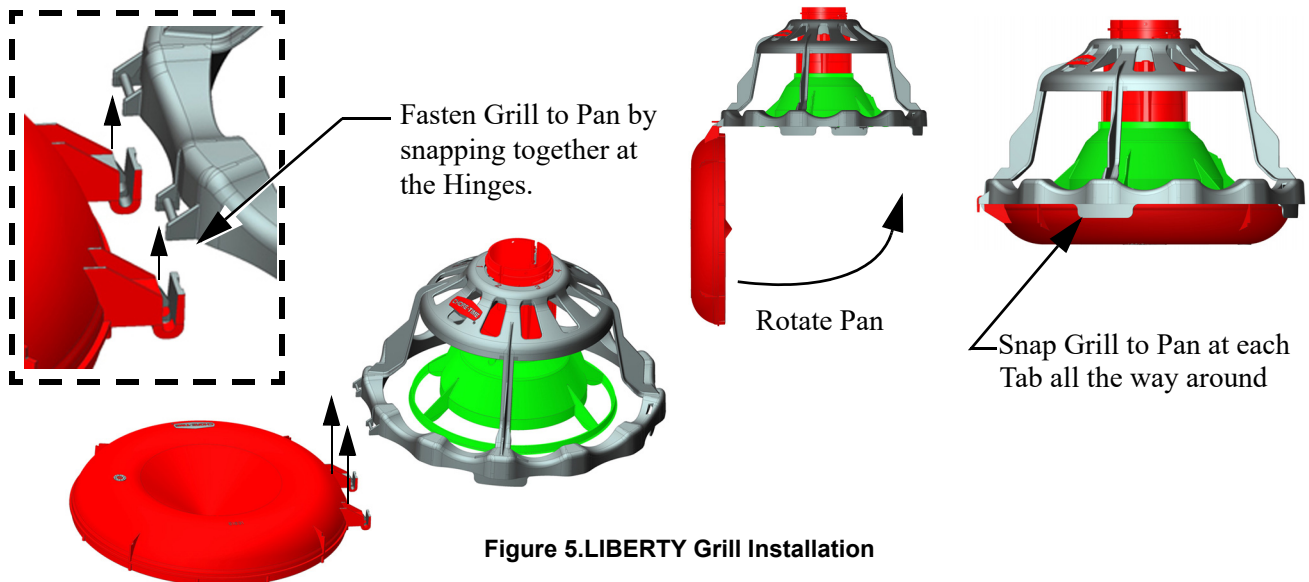

Figure 5. LIBERTY Grill Installation
3. Fasten the Pan (51631) onto the Grill as shown in **Figure 5**. Rotate the Pan and snap the Grill in place.